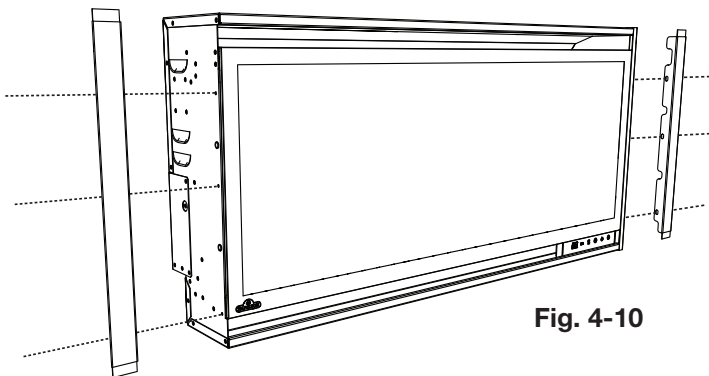

Fig. 4-10
1. Install left and right trims, and secure with fasteners (**Fig. 4-10**).